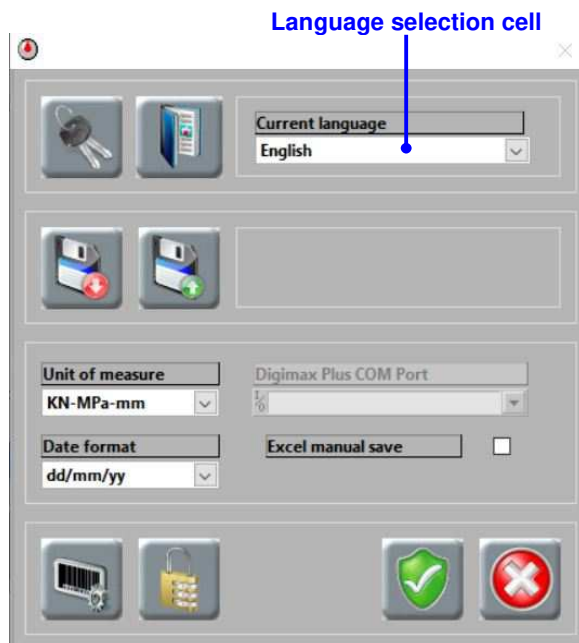

Fig. 6-1
3. From the **Language selection cell**, select the language you require (see Fig. 6-1).